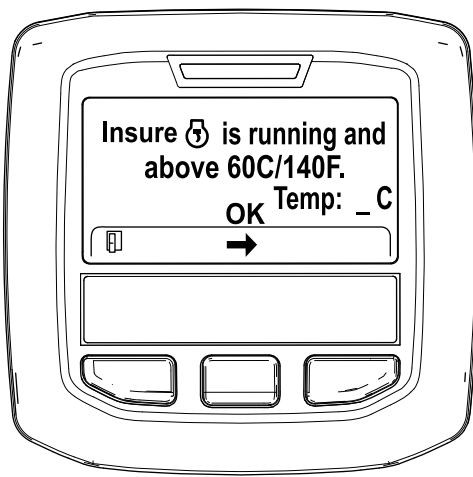

Figure 32
5. If the coolant temperature is below 60°C (140°F) the "Insure  is running and above 60C/140F" message displays. (Figure 32).